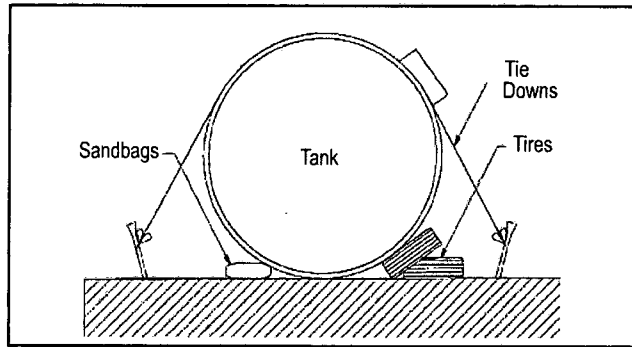

FIGURE 2-3
2.3.1. Whenever a tank is temporarily placed above the ground at the site, place it on a smooth, solid, level area that is clear of large rocks, trash and debris, and then chock it in place to prevent rolling. See FIGURE 2-3.
2.3.2. Tie the tank down if high winds are expected. Do not use wire rope or chains. See FIGURE 2-3.